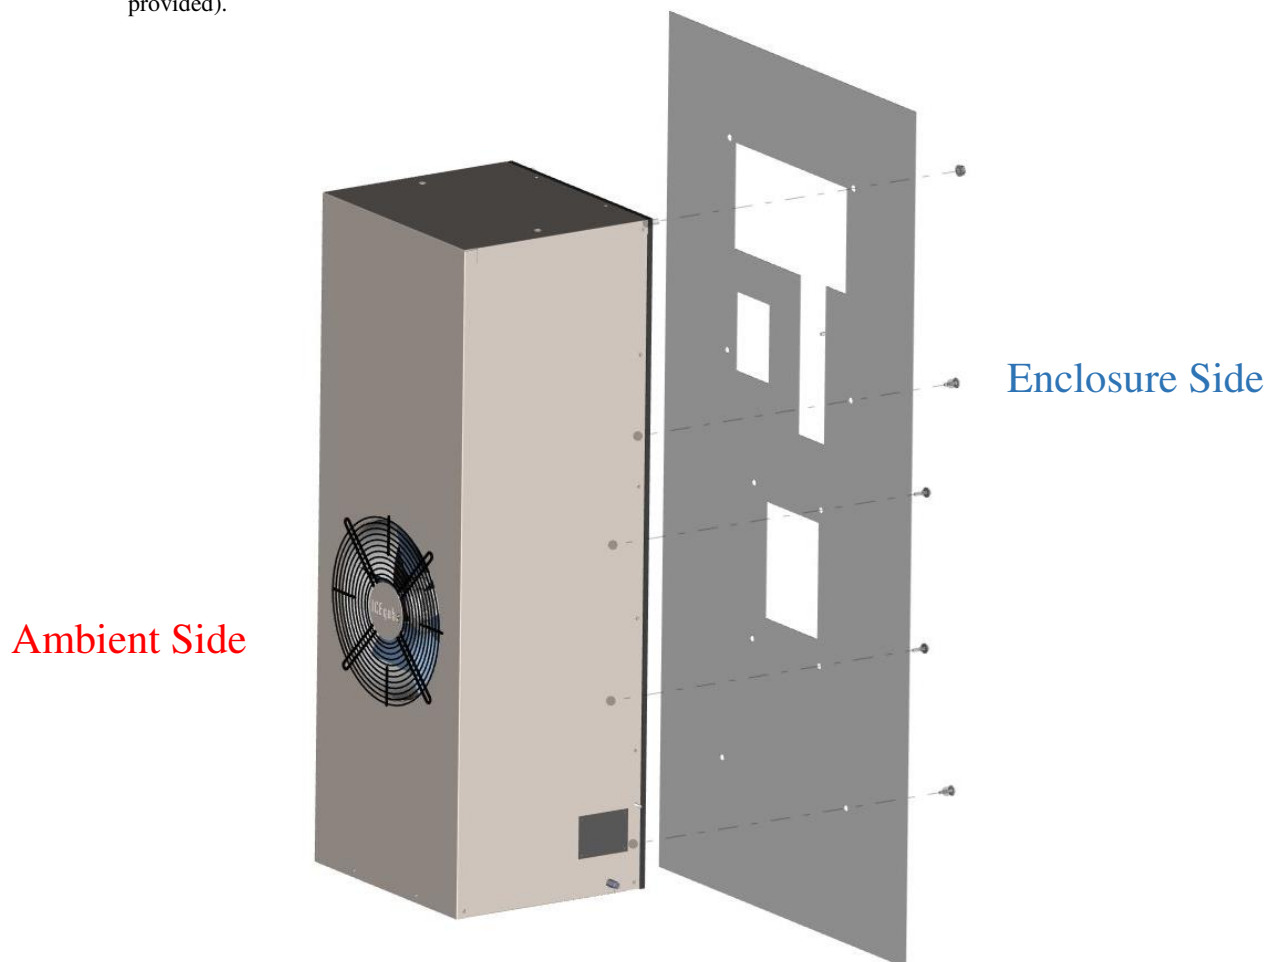

Figure 1: Enclosure Installation
1. Position the Ice Qube TMS so that the two mounting studs are in alignment with the top two 1/2" (12.7mm) holes in your enclosure surface. (See Figure 1: Enclosure Installation pg:7)
3. After checking that all opening and bolt holes are in alignment, assemble and tighten the (2) M10-1.5 nuts and (8) M6-1 x 20mm bolts supplied with you Ice Qube TMS by hand. Check to ensure gasket will properly seal the Ice Qube TMS to your enclosure.